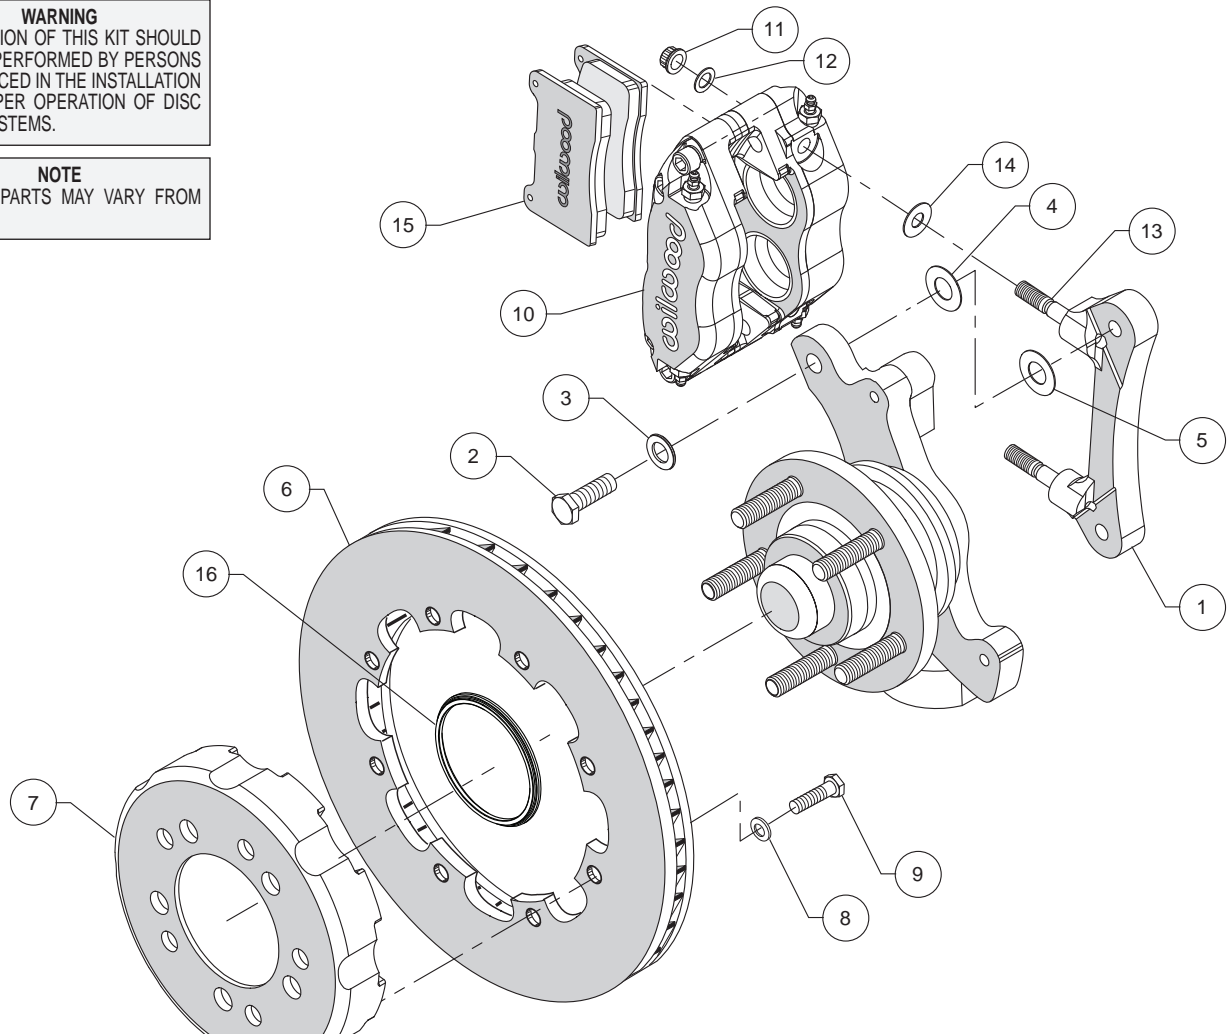
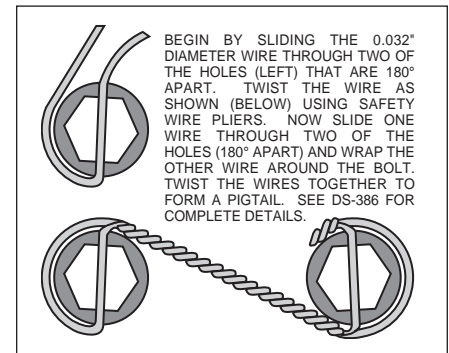

Figure 1. Typical Installation Configuration
Figure 4. Safety Wire Diagram
- The caliper mount bracket assembly (1) should be installed first with clean, dry threads on the mounting bolts. Install the bracket on the inboard side of the spindle by sliding bolt (2) through flat washer (3), and spindle ear from the outboard side of the spindle. Place two shim washers (5) between the bracket (1) and the spindle (see figure 1). The bracket must tighten squarely against the inboard side of the modified caliper mount bosses on the spindle body. Inspect for interference from casting irregularities, machining ridges, burrs, etc. Later, after the caliper, pad, and rotor alignment has been checked, and any necessary shims have been put in place, the mount bolts should be coated with red *Loctite*® 271 and torqued to 65 ft-lbs.
- Slide the rotor registration adapter (16) onto the axle register on the axle flange with the smaller O.D. facing toward the hat (7)
- With the larger I.D. side of the rotor (6) facing away from the hat (7), attach the rotor (6) to the hat (7) using washers (8) and bolts (9) as shown in Figure 1. Using an alternating sequence, apply red *Loctite*® 271 to the threads and torque bolts to 25 ft-lb. For an added measure of security, the bolts may be safety wired using standard 0.032 inch diameter stainless steel safety wire as shown in Figure 4. -- Please refer to Wilwood's data sheet DS-386 (available at www.wilwood.com/Pdf/DataSheets/ds386.pdf) for complete safety wire installation instructions.
- Lubricate caliper mounting studs (13) and nuts (11) with lightweight oil. Install two shims (14) over each stud (13) on the radial mount bracket. Slide the caliper (10) in place over the studs and rotors and install the washer (12) and lock nut (11) to hold the caliper in place. Snug the lock nuts (11) and check that the rotor (6) is centered in the caliper (10). Add or subtract shims (4 and/or 5) as necessary between the mount bracket and the spindle to center the caliper.
- Remove the caliper center bridge pad retainer bolt, nut, and tube from the caliper. Slide the brake pads (15) into place. They should install easily without interference. Check that the outside radius of the brake pad is flush with the outside diameter of the rotor face. Add or subtract shims (14) between the caliper and mount bracket to gain the proper alignment. Reinstall the center bridge pad retainer tube, bolt, and lock nut. The locknut should be snug without play in the bolt or tube. Be cautious not to over tighten.
- Once all clearances have been checked, remove the wheel, caliper, hat, and rotor from the spindle and hub. Secure the caliper mounting bracket (1) to the spindle using red *Loctite*® 271. Torque the bolts to 65 ft-lbs. Reinstall the hat and rotor assembly and again use several lug nuts to hold it in place. Reinstall the caliper, torque the caliper nuts (11) to 30-35 ft-lbs.